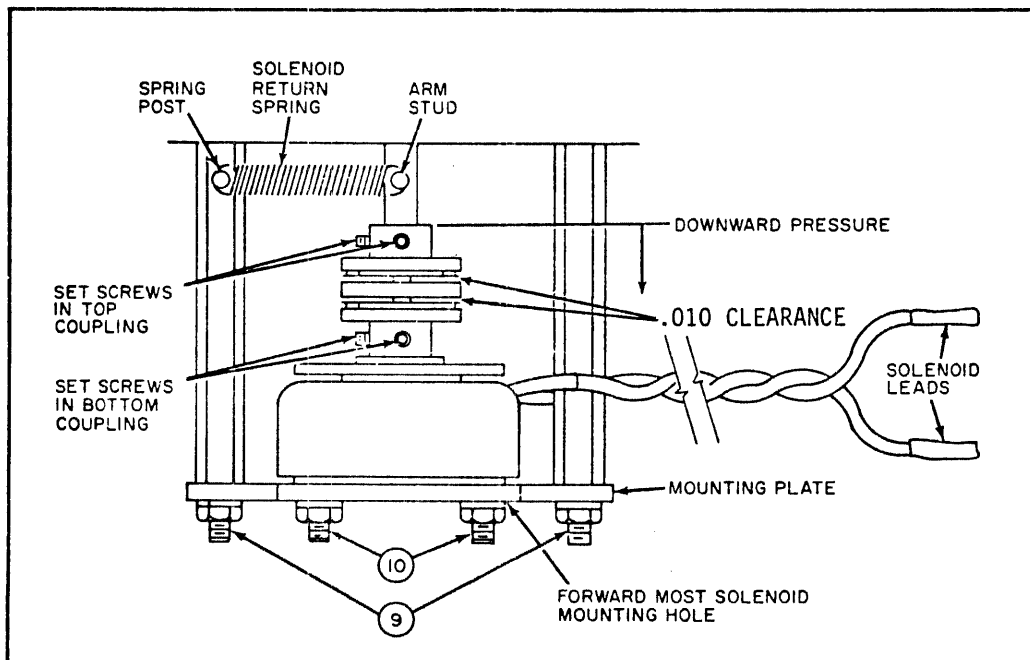

Figure 6-14. Solenoid Preload Adjustment
- q. Using a 1/16 Allen screwdriver, loosen the two set screws in the top of the solenoid coupling, figure 6-14.